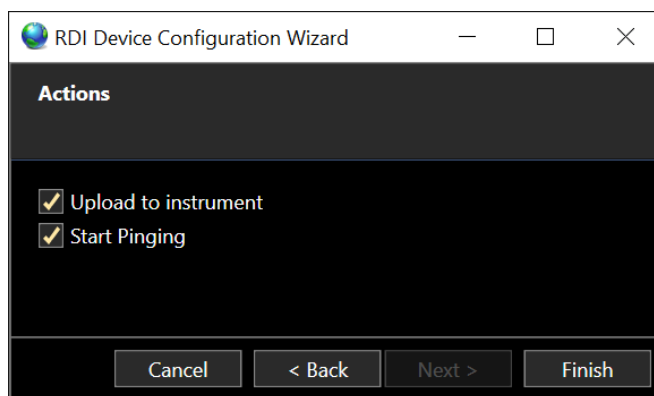

FIGURE 18-14 RDI DEVICE CONFIGURATION - ACTIONS PAGE
V. The Actions page has the following two options, see Figure 18-14